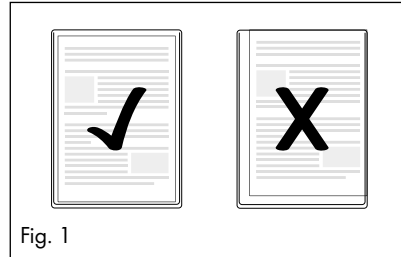

Fig. 1
① Note
- ▶ The LED **80 MIC ⑦** or **125 MIC ⑧** lights up to indicate that the operating temperature has been reached. For a more uniform laminating result, we recommend first waiting an additional 2-3 minutes before beginning with lamination, especially for thinner pouches (below 125 Micron) and after adjustment to a different pouch thickness.
- ▶ The LED **80 MIC ⑦** or **125 MIC ⑧** may occasionally turn off and light up again. This means that the appliance is maintaining the temperature and is reheating itself. This is not a malfunction of the appliance!
- ▶ Ensure that all edges of the document have at least two millimetres of space to the edges of the laminating pouch, as shown in Fig. 1.